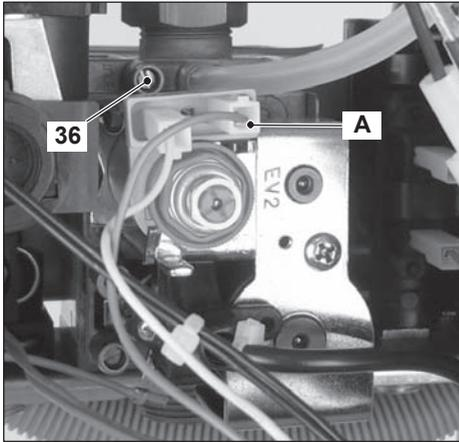

Fig. 7.6
- Loosen the internal screw 36 (Fig. 7.6) on the Outlet Pressure Test Point of the Gas Valve and connect a pressure gauge using a suitable hose.
- Disconnect the gas modulator coil by removing the electrical connector A (Fig. 7.6).
- Open the gas valve outlet pressure test point 36 (Fig. 7.6) and connect the gauge.